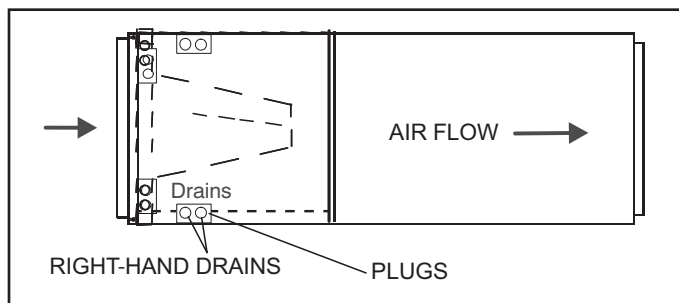

FIGURE 5. Right-Hand Discharge Configuration
- 4 - The horizontal configuration is shown in figure 5.